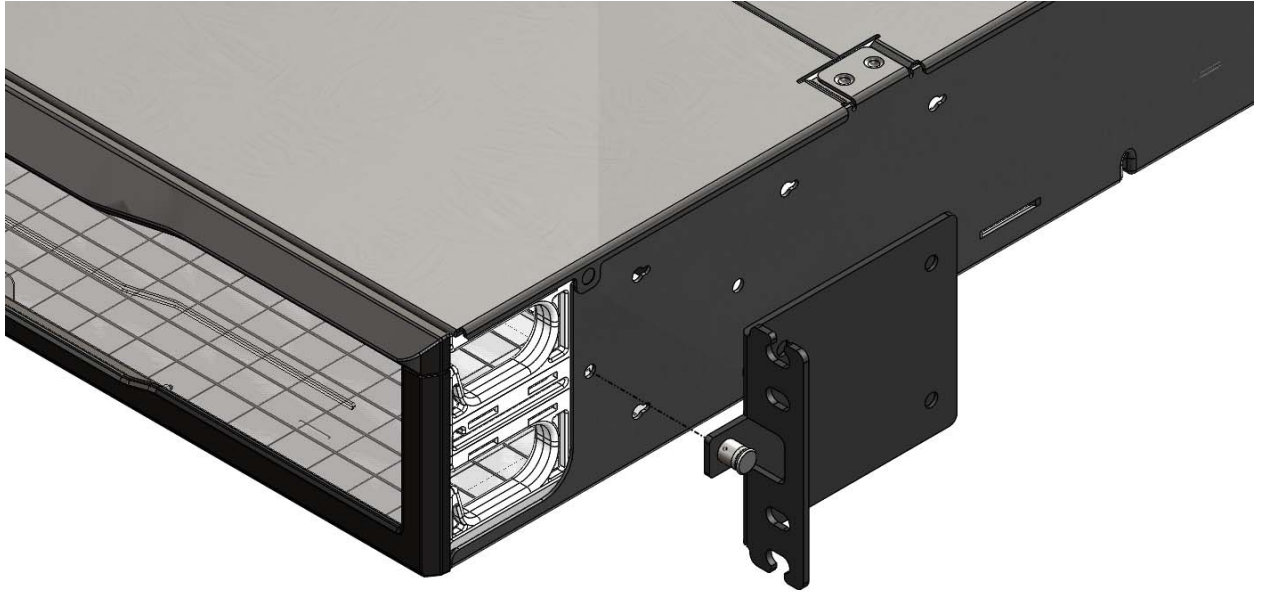

Figure 1
- 5.3. Attach one Mounting Bracket (Item 5) to each side of the enclosure by aligning to the keyhole slots and pressing back until the spring pin latches into the aligning hole. See Figures 1, 1a, and 1b.